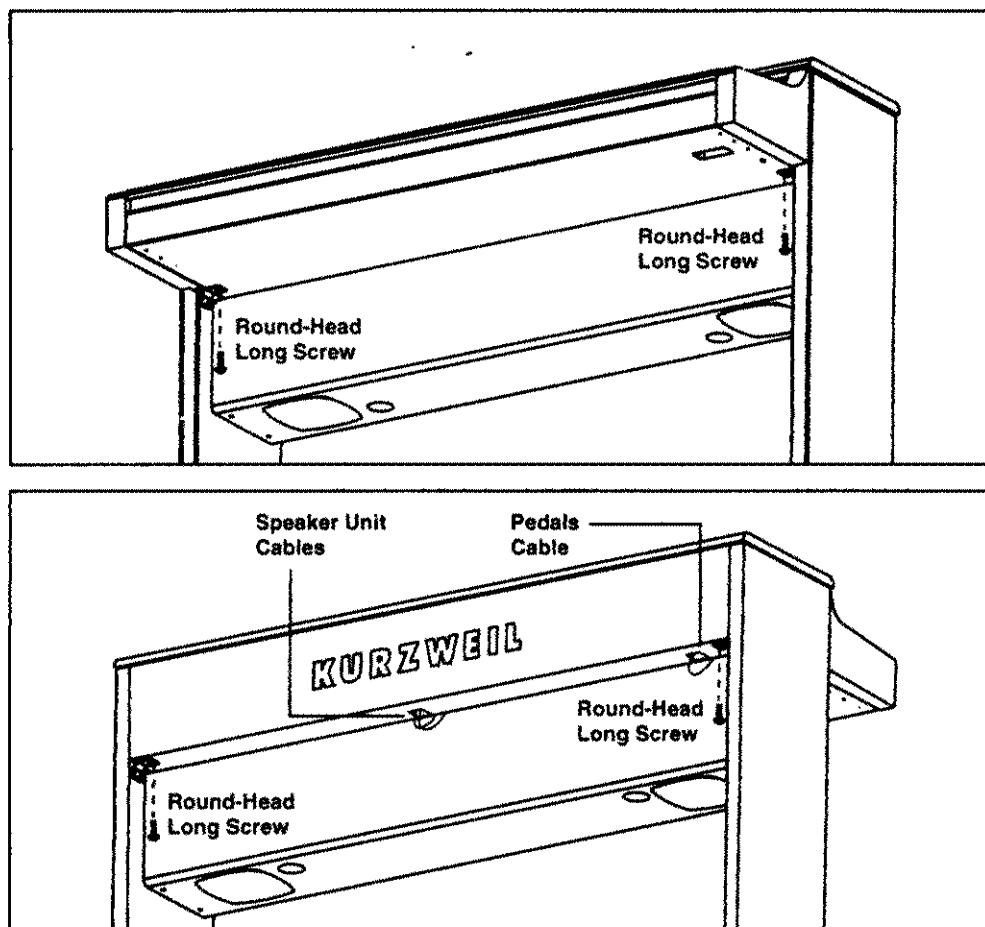

Figure 7. Attaching Body to Completed Stand.
20. See Figure 7. Using the four remaining round-head long Screws, attach the Piano Body to the Stand. Once you have tightened the Screws with a #2 Phillips screwdriver, it's safe to let go of the Piano.
21. Insert the Speaker Unit Cables and the Pedals Cable into the connectors on the rear of the Piano Body, as shown in Figure 7. The connectors on these cables are designed to only fit together one way.